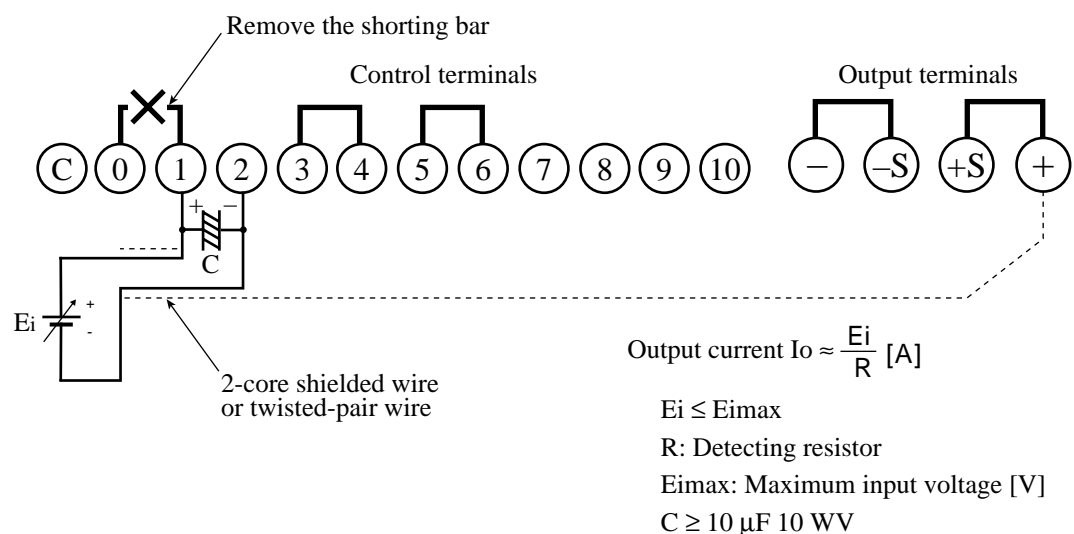

Fig. 4-13 Connections for output current control with external voltage
6. Remove the shorting bar from terminals 0 and 1 of the control terminal board, as shown in Fig. 4-13.
7. Connect an external voltage source (E_i) and capacitor (C) between terminals 1 and 2 of the control terminal board, as shown in Fig. 4-13.